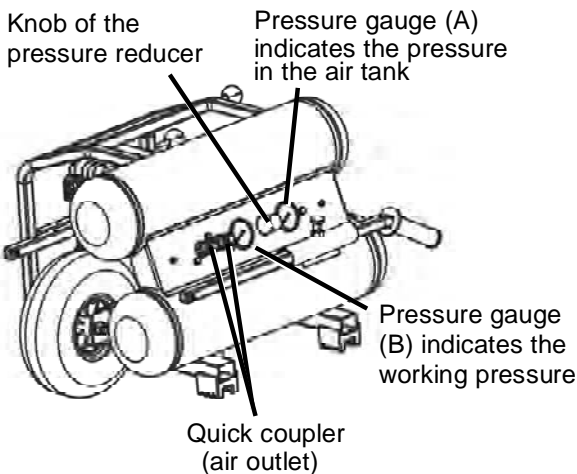

Fig.9
A pressure gauge (B) is provided to know when the required pressure is reached, lock the knob by pushing it down firmly (Refer to Fig. 9).